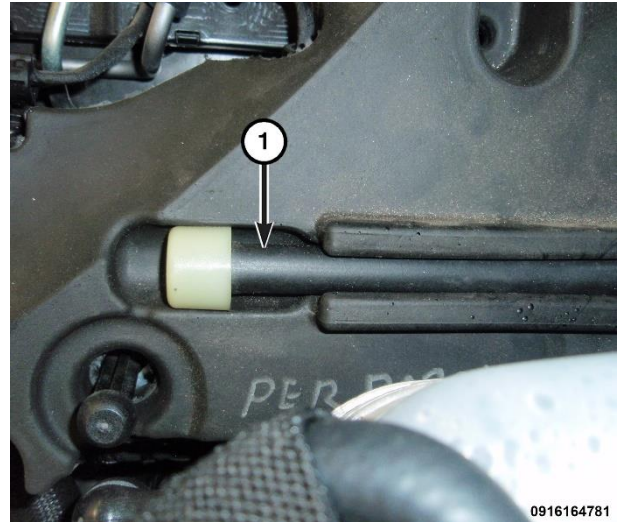

Figure 112 – Vent Hose
- 33. Remove the vent hose (1) from the left fuel rail cover (Figure 112).